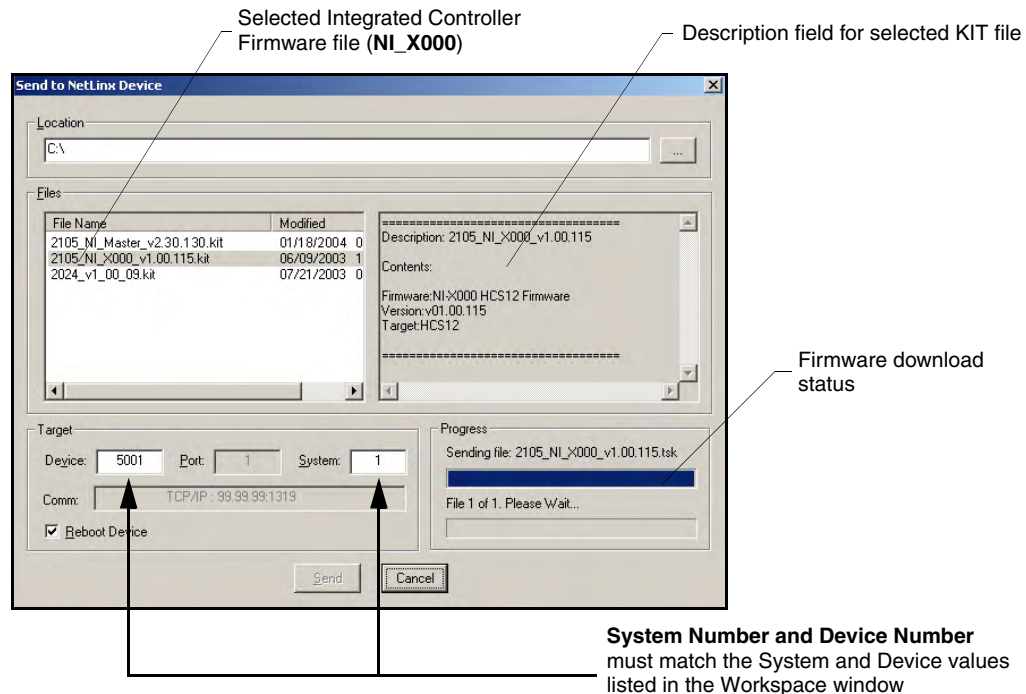

FIG. 33 Select NI firmware file for download page (via IP)
3. Select **Tools > Firmware Transfers > Send to NetLinX Device** from the Main menu to open the Send to NetLinX Device dialog (FIG. 33). Verify the target's **Device and System** numbers matches the value listed within the System folder in the Workspace window.
4. Select the Integrated Controller's KIT file from the **Files** section (FIG. 33).
8. Click **Send** to begin the transfer. The file transfer progress is indicated on the bottom-right of the dialog (FIG. 33).
- Click **Send** to begin the transfer. The file transfer progress is indicated on the bottom-right of the dialog (FIG. 33).